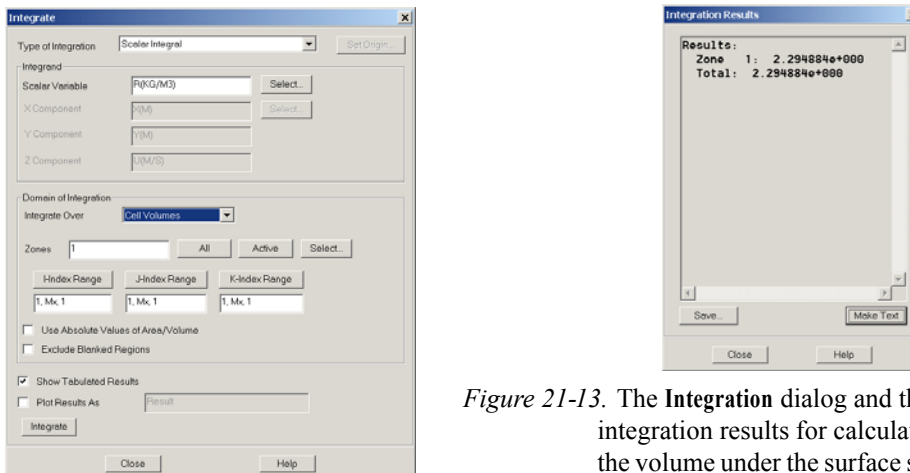

Figure 21-13. The **Integration** dialog and the integration results for calculating the volume under the surface shown in Figure 21-12.
**Calculating Total Mass:** To calculate the total mass we must integrate density over volume (or area in 2D). If your data set does not contain density, it may be determined using the **Calculate** dialog. (See Section 21 - 6 “Calculating Variables”) Select the Scalar Integral integration type, choose the density variable as the scalar, then integrate over Cell Volumes (which is demoted to K-planes for our IJ-ordered data). When we click Integrate, the total mass appears as the result of the integration. The **Integrate** dialog and the results are shown in Figure 21-13.